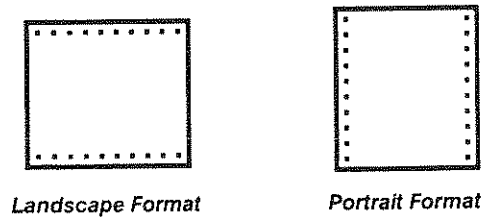

Figure 3-19: Hardcopy Formats
3. Press **SHIFT HARDCOPY MENU** → **Layout (main)** → **Landscape** or **Portrait** (side) (see Figure 3-19).